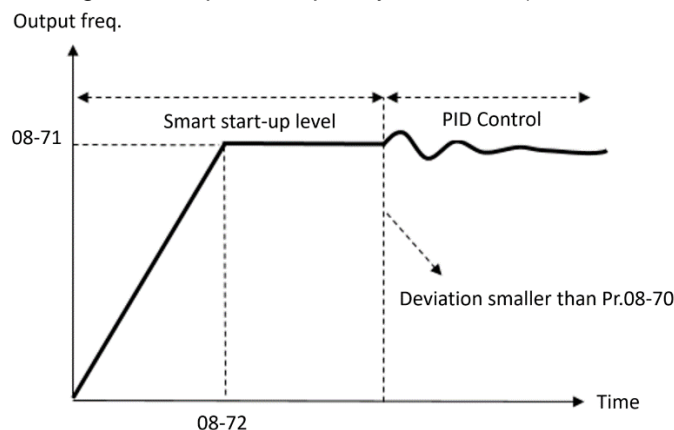

Figure 3 The process description for smart start-up and PID control
- 📖 When the smart start-up is enabled, it starts with Pr.08-71 frequency and Pr.08-72 acceleration time (the “acceleration time” in Pr.08-72 means the time that accelerates to Pr.08-71 frequency). When PID deviation is smaller than Pr.08-70, it switches back to normal PID control (switching to PID control makes the smart start-up frequency fill into PID's integral to keep the frequency continuous), as shown in Figure 3.